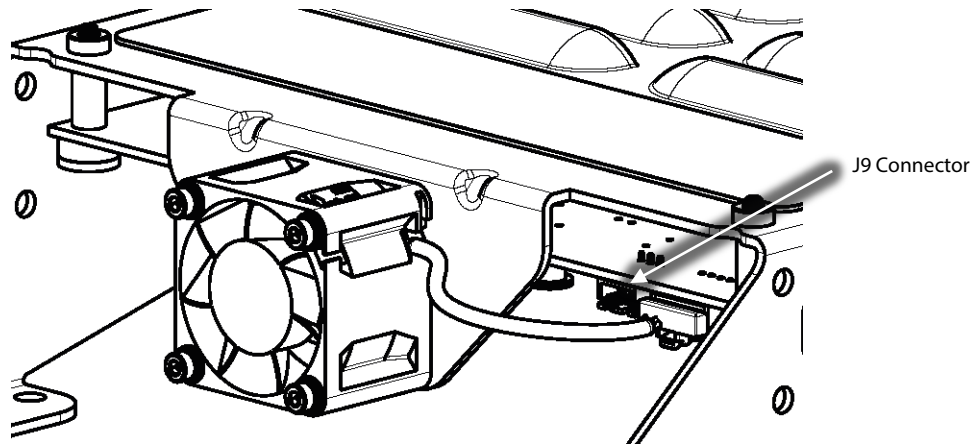

Figure 1 – Soft Start J9 Connector
2. Release the four (4) captive screws that secure the Mains Input Cover and remove the cover.
5. Release the nine (9) captive screws that secure the Top Cover and remove the cover, taking particular care not to touch ANY components underneath.
6. Using an appropriately rated volt meter, check the DC bus bars for voltage level. If the voltage is above 5VDC, wait five (5) minutes and recheck until 5VDC or below is achieved.
- For F Series and later compressors, remove the Soft Start Temperature Harness. Refer to Figure 1 (Soft Start J9 Connector).